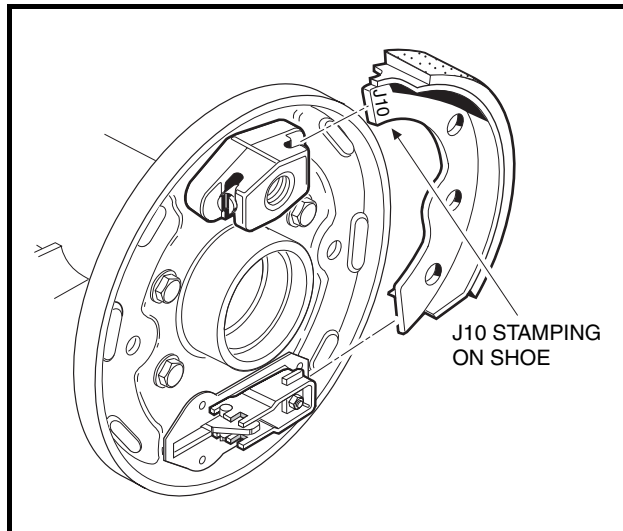

Figure 6-23 Position Shoes
1. Position one shoe in the slots in the mounting block anchor piston and brake actuator (**Figure 6-23, Page 6-11**). See following **WARNING**.
- When installing brake shoes, the shoes must be oriented with tips stamped **J10** inserted into the mounting block anchor piston slots rather than into the brake actuator slots (**Figure 6-23, Page 6-11**). Incorrectly installed brake shoes will be too tight and make adjustment of the brake impossible.